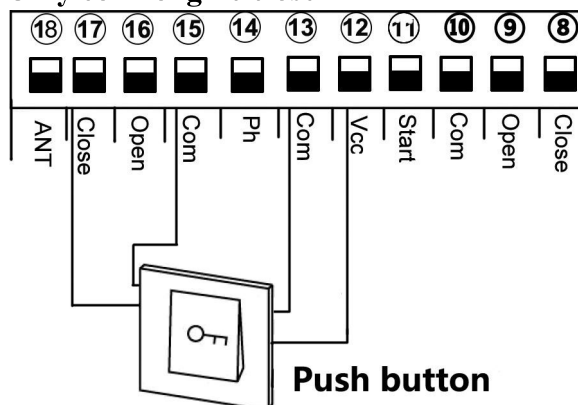

Fig 13
H. Connect to close device. (Please see Fig 13)